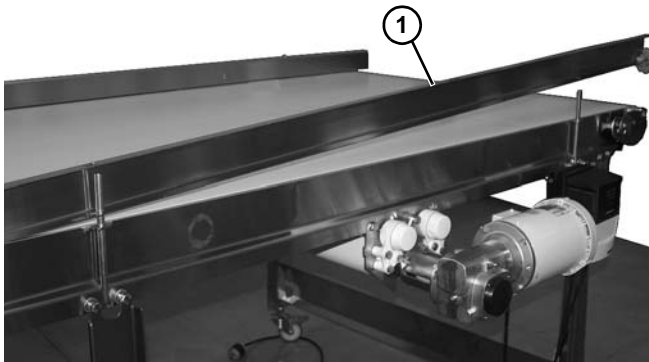

Figure 80
1. Remove guides (Figure 80, item 1) when required.